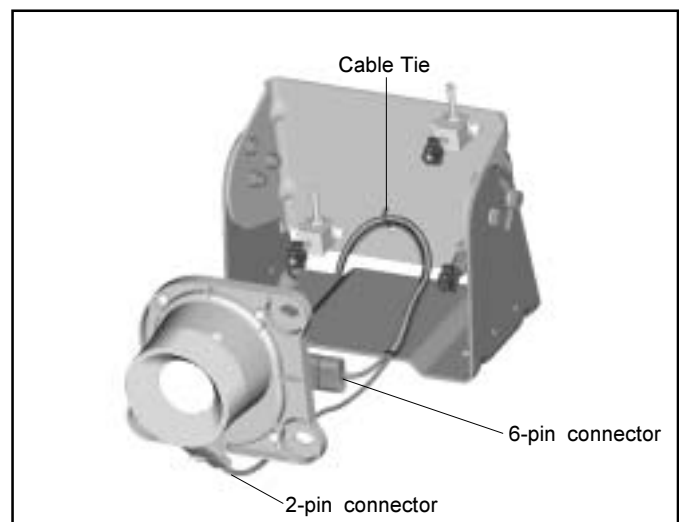

FIGURE 21 - CONNECTING THE CAMERA HARNESSES
9. Plug the 2-pin connector of the IR camera harness into the window heater. Refer to Figure 21.
10. Plug the 6-pin connector of the IR camera harness into the IR camera connection. Refer to Figure 21.